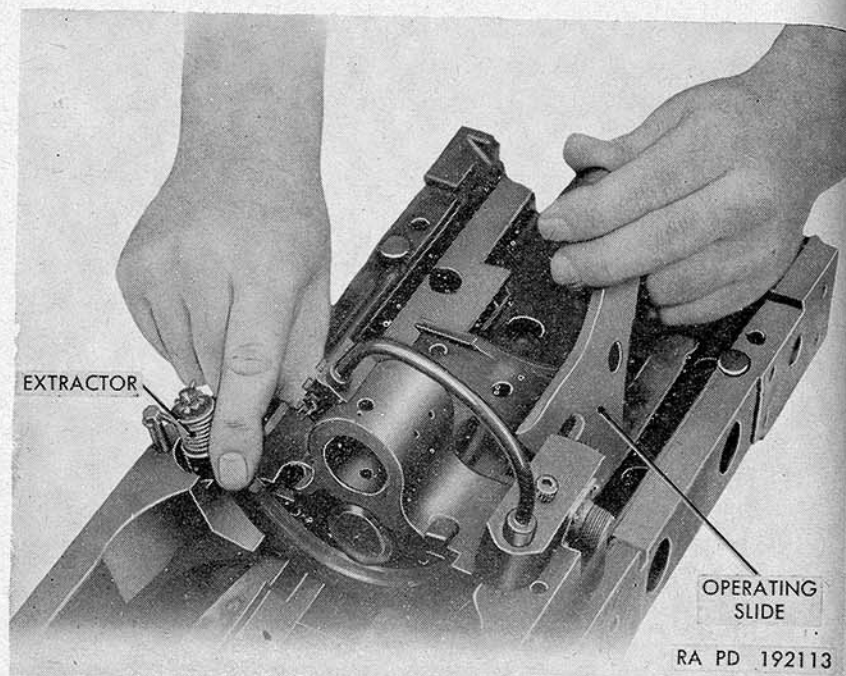

Figure 73. Returning operating slide to battery.
f. Return the operating slide (fig. 73) to battery, pulling the extractor rearward and pushing the operating slide as far forward as possible.